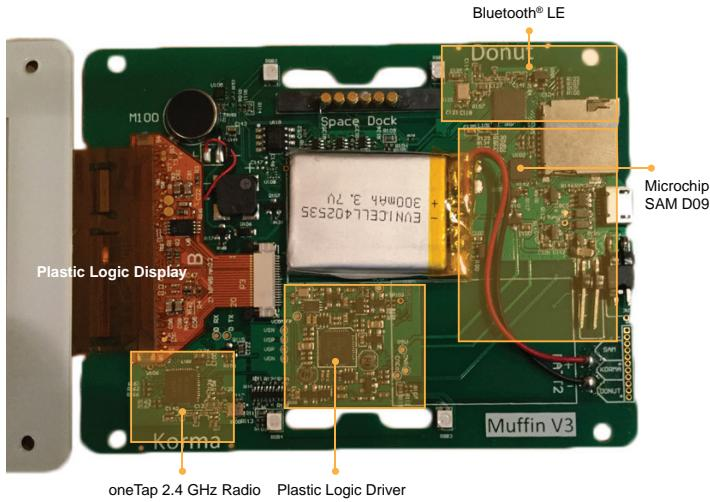

Figure 1: Blendology oneTap Badge Subsystems
The Blendology badge contains four major subsystems as shown in Figure 1:
3. Plastic Logic Driver: This circuitry provides the high and precise voltage levels to raise and lower the bubbles of ink in the Plastic Logic e-ink display. (The tail of the display, which also has some components, is shown on the left side of Figure 1.)